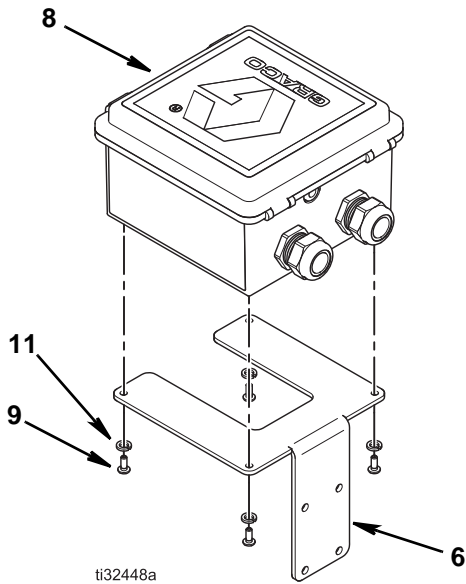

FIG. 10 Attach controller to pump mounting bracket
2. Attach the controller (8) to the mounting bracket (6) using supplied screws (9) and washers (11). See FIG. 10.